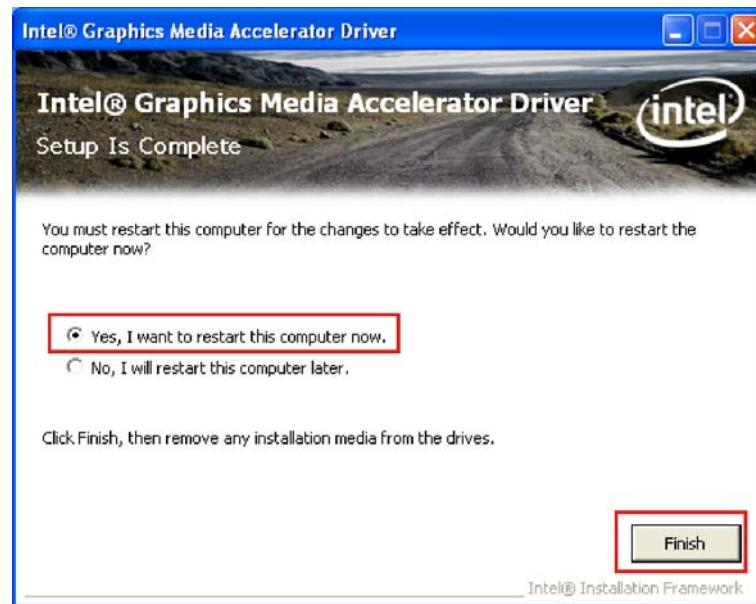

Figure 7-15: VGA Driver Installation Finish Screen
**Step 16:** Select "Yes, I want to restart the computer now" and click **FINISH**. See Figure 7-15.